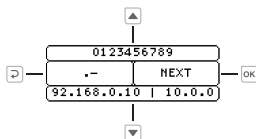

fig. 17: Input options
- 7.2** Use the buttons on the Embion EMS controller to select one of the four input options related to the position of the pressed button. (fig. 17)